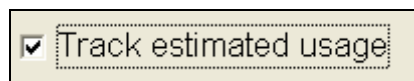

Figure 16.5.3D
Track Estimated Usage: This option is only available if you have **NO** flow meter assigned to this controller and you are **NOT** using (ET) or Budgets (Figure 16.5.3D).